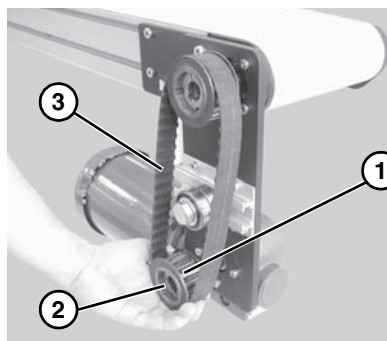

Figure 18
*If drive pulley (**Figure 18, item 1**) is replaced, wrap timing belt around drive pulley and complete step 3.*
5. Remove pulley (**Figure 18, item 1**), taper hub assembly (**Figure 18, item 2**), and timing belt (**Figure 18, item 3**).
*Drive pulley (**Figure 18, item 1**) is removed. Wrap timing belt around drive pulley and complete step 13.*